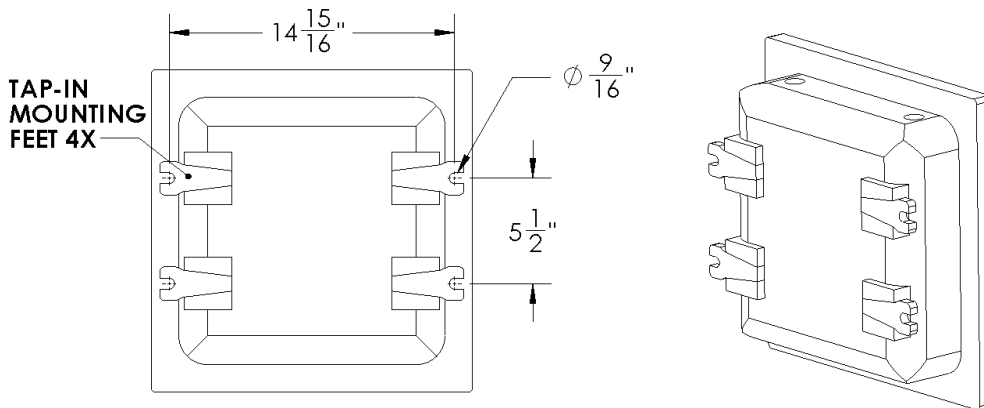

Figure 1.
- 1) Each enclosure has tap-in mounting feet included. Mount the enclosure in the desired location. Refer to Figure 1 for mounting dimensions.